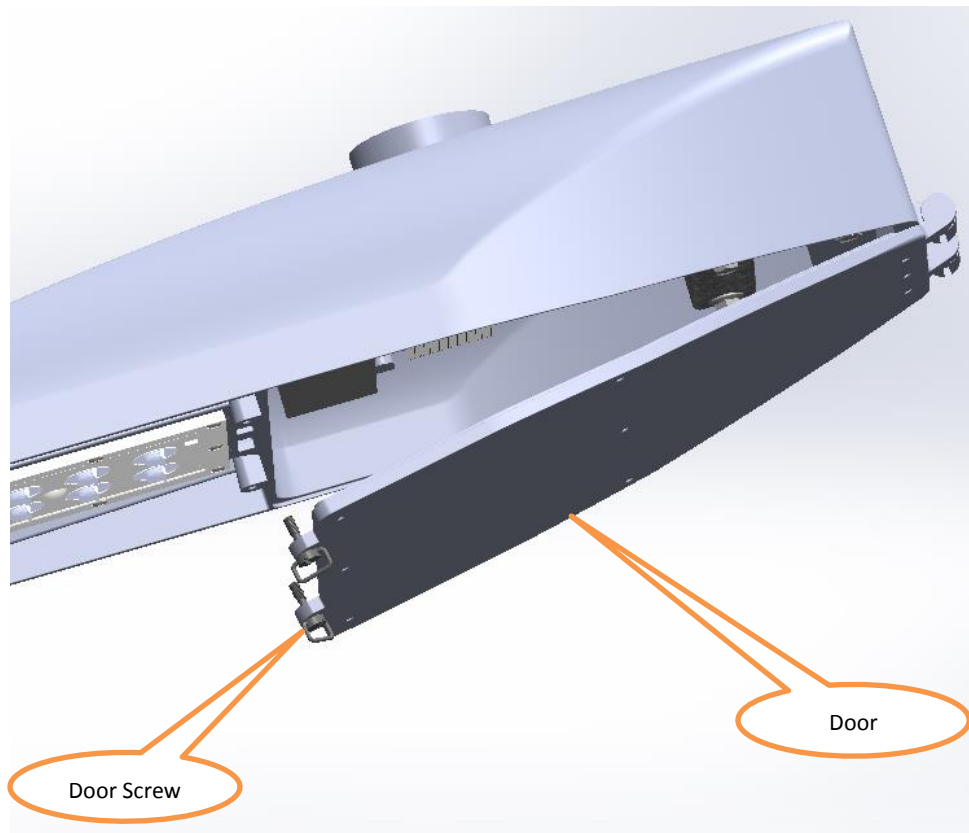

Figure 1
1. Open the door by loosening both door screws. (See Figure 1)